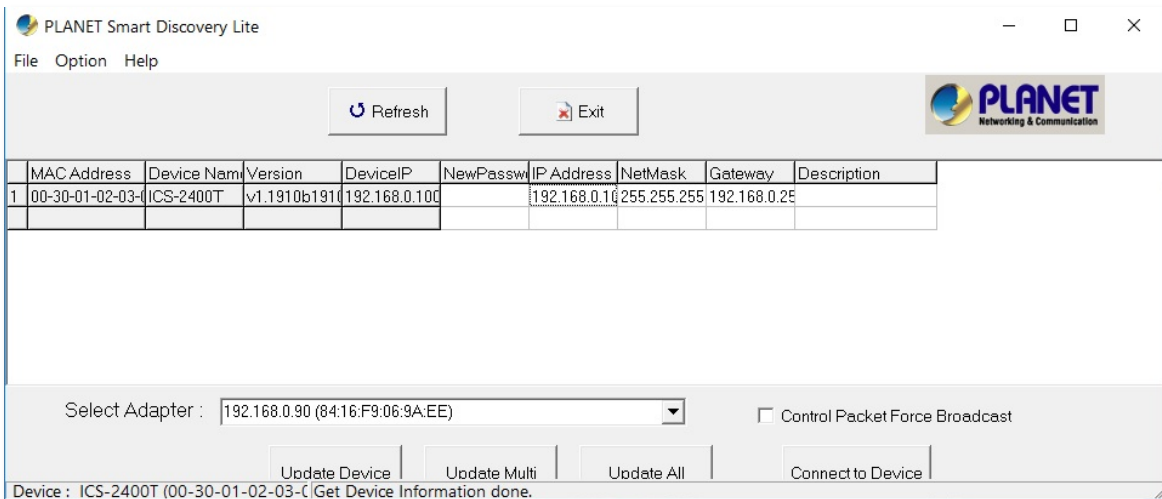

Figure 3-4-2: Planet Smart Discovery Utility Screen
3. Press the **“Refresh”** button for the currently connected devices in the discovery list as shown in Figure 3-4-2.:
4. Press the “**Connect to Device**” button and the Web login screen appears as shown in Figure 3-4-2.